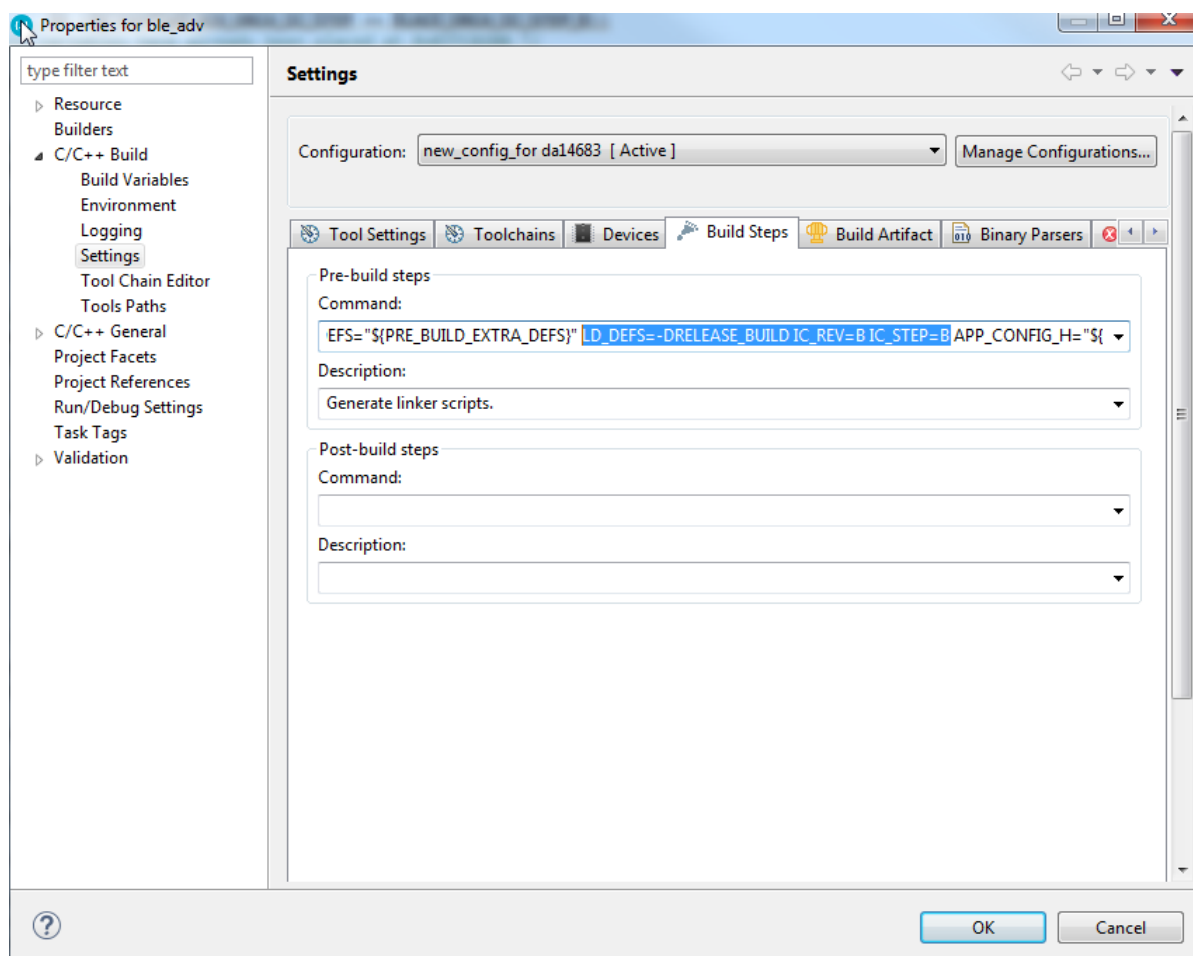

Figure 7: Edit Pre-build configuration
- In the **Build Steps** tab, the command in the **Command** of the **Pre-build Steps** edits the IC revision to match the compiler parameters (Figure 7).